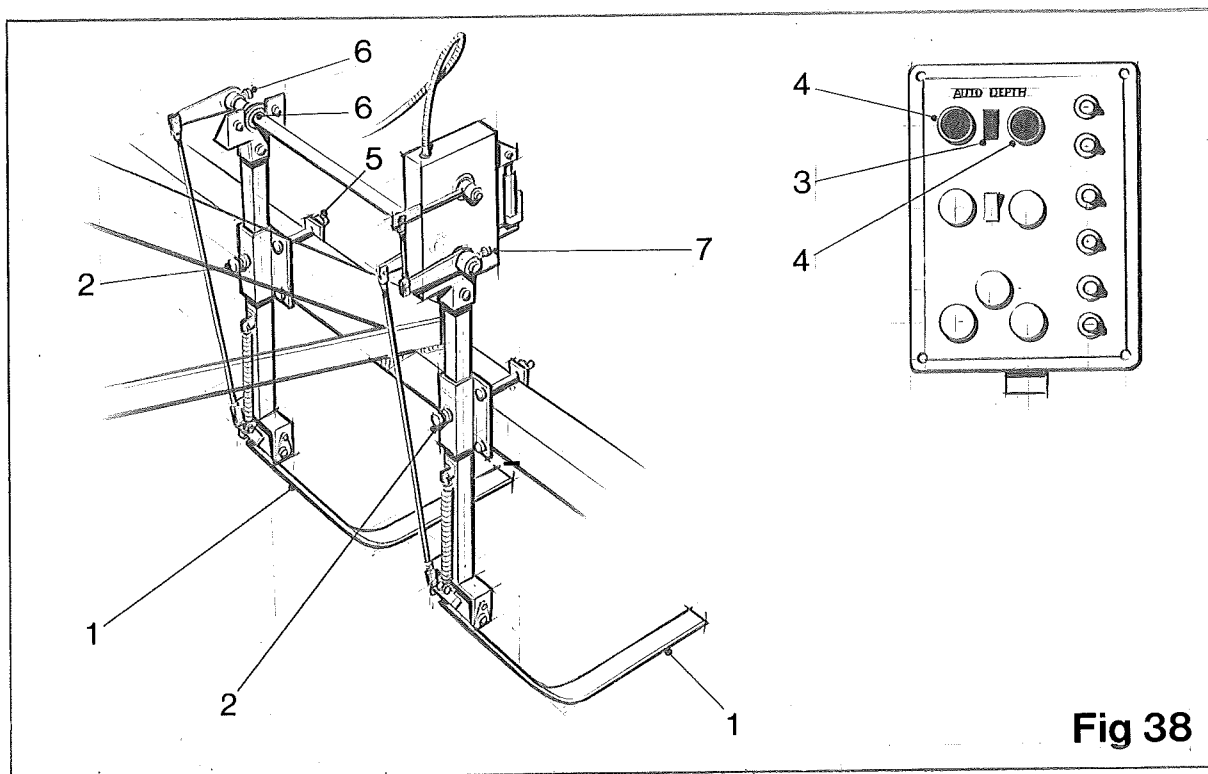

Fig 38
The depth foot (item 1, fig 38) runs along the ground between two rows of beet following the contours of the land. The depth foot actuates a proximity switch which in turn operates the depth ram on the drawbar, which then connects the harvester.
1. Position underneath both the depth feet (item 1, fig 38) a 2" (51mm) block of wood or something to represent the depth at which you wish to lift.
2. Loosen the retaining bolts (item 2, fig 38) and raise or lower the complete unit until the corner marked 'A' on the centre spindle (item 4, fig 39) is in line with the centre of the proximity switch (item 2, fig 39)
To engage the automatic depth control, press the switch (item 3, fig 38) on the control box. If during work extra depth is required, the machine needs to be raised out of the ground. The depth control can be overridden by pressing the up or down switch (item 4, fig 38).
The position of the LH depth foot assembly can be adjusted to suit varying row widths. To adjust, slacken the clamp bolts (item 5, fig 38) and the retaining bolts (item 6, fig 38) and slide the assembly to the required position.
1. Ensure the depth foot (item 1, fig 38) is touching the ground by lowering the machine.
3. Loosen the lever lock screws (item 7, fig 38).